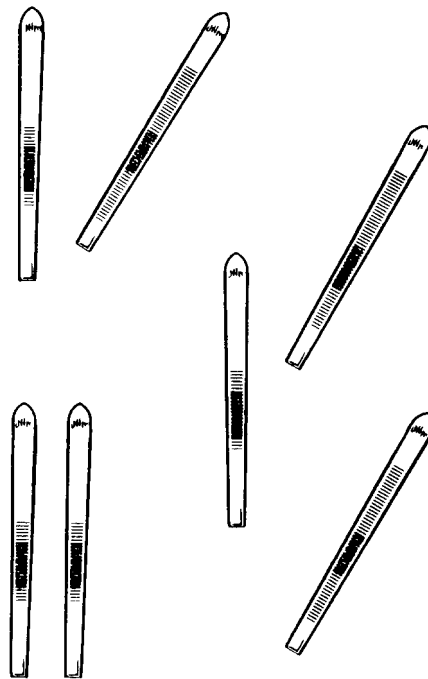

Figure 5-13 Half Herringbone
4. Half Herringbone. Done as for the herringbone, but one ski is slid to the front while the other is angled to the side (see Figure 5-13).